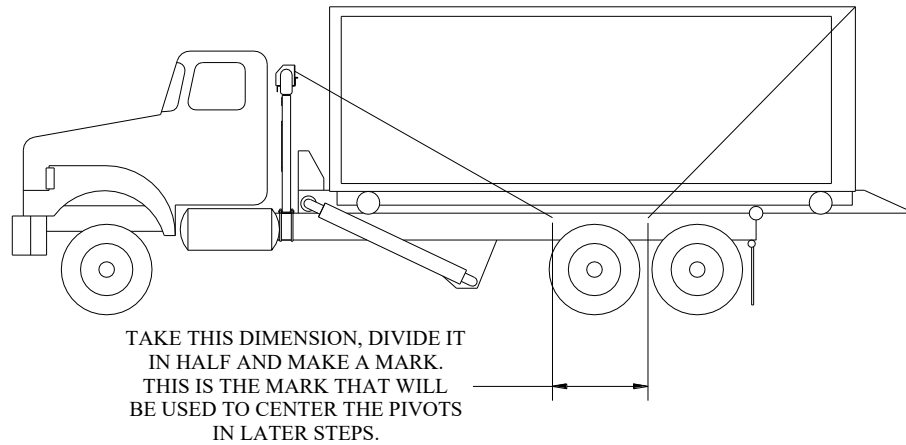

Figure 3
3) Measure from the first mark to the second mark, divide that measurement in half and make a mark. This is where the pivot point of the system will be. (Refer to Fig. 3)